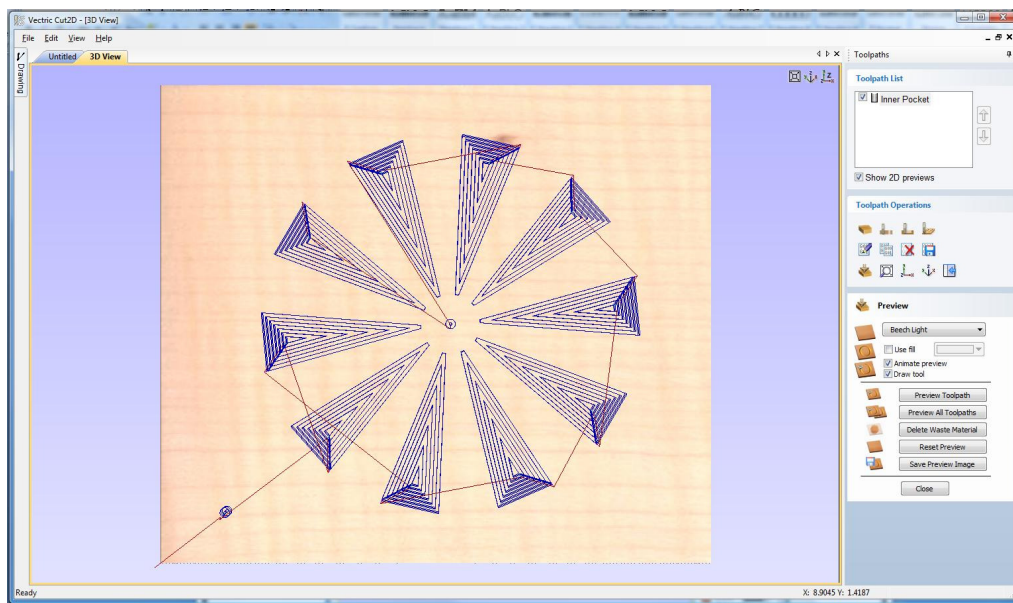

Figure 16. 3D View showing Toolpath & Material
8. Click the **Calculate** button and the resulting toolpath will automatically be drawn in the **3D view** and the **Preview job** form opened, as shown below in Figure 16.